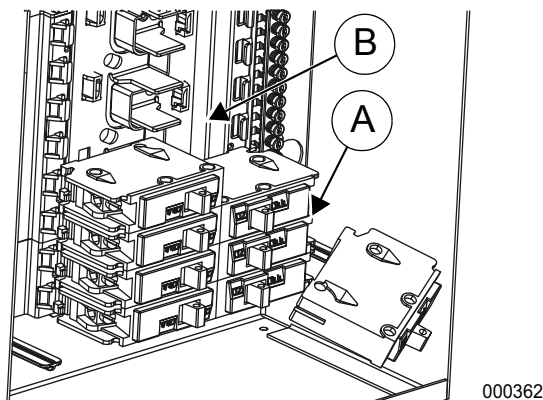

Figure 3-2. Install Breakers
- See **Figure 3-2**. Insert tab on each breaker (A) into the hook on the bus (B). Push the breaker into the bus until it snaps into place.